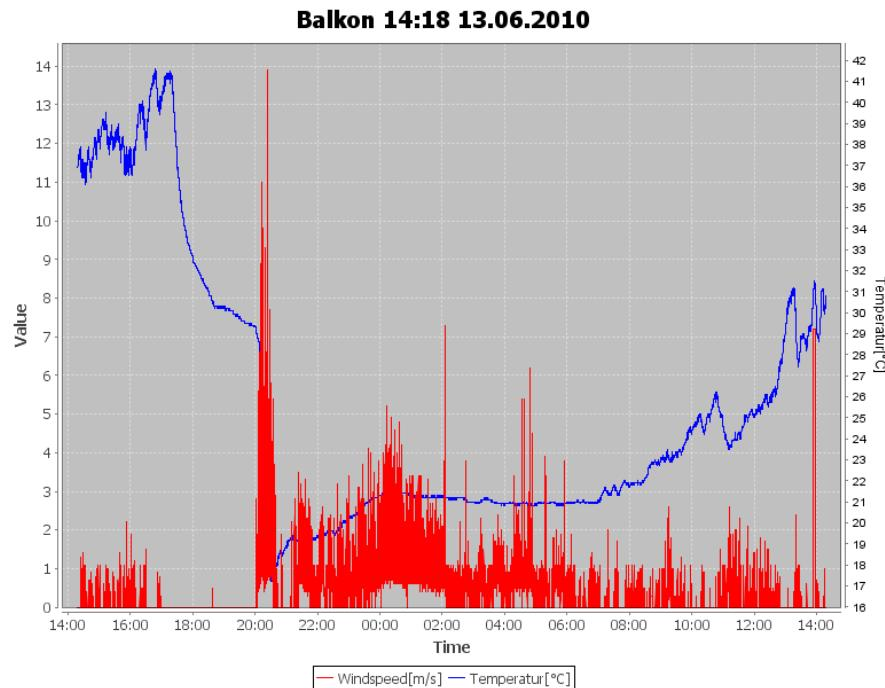

Figure 4.3: Last 24 hours of two separate parameters in one plot
**Hours** represents the values of the last hours for the plot. The amount of the hours is specified in the plot configuration. It's the number after the timebase. Figure 4.3 provides an example of a 24 hour plot.